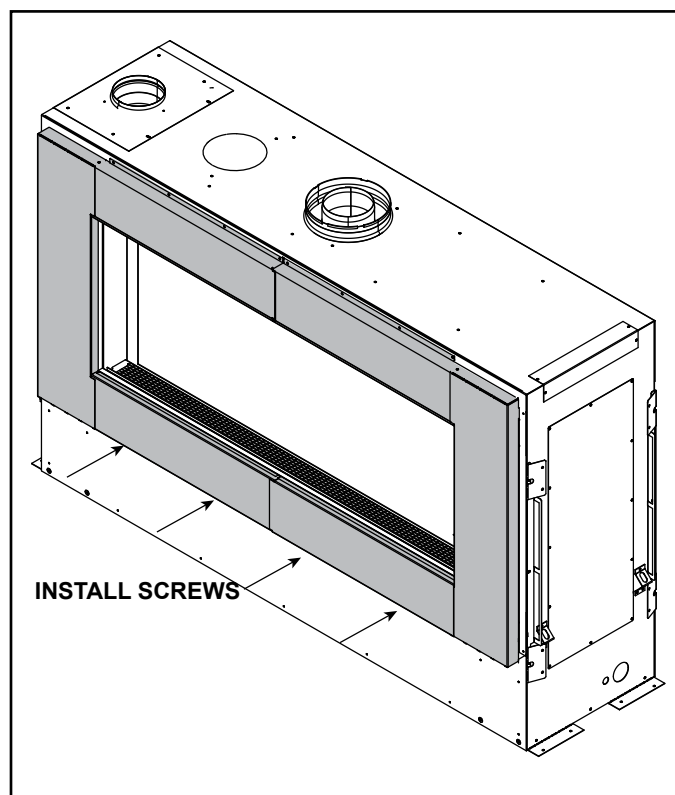

Figure 15 Both Side Panels Installed
7. Install screws in bottom panels. Hold top edge of bottom panel flush with bottom of appliance opening when installing screws. See Figure 15.